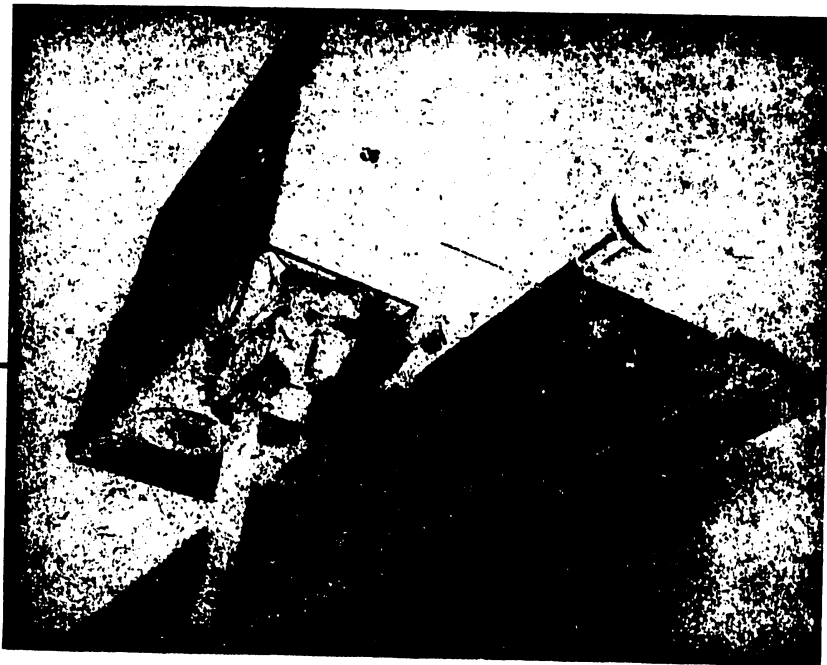

FIGURE 3
- 2) Connect the remaining cable coming from the Model 32 package to the arm of the plotting table. This cable is connected to a jack located on the bottom of the plotter, directly beneath the X-Y stepping motors. See Figure 3.